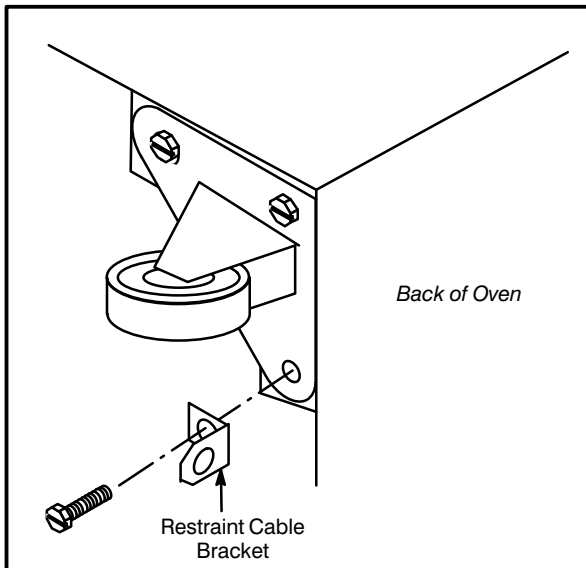

Figure 5
1. Mount the supplied bracket to the leg bolt below the gas inlet. See Figure 5.